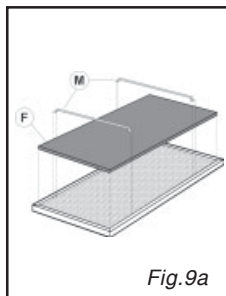

Fig.9a
Take away the coal filters (F) and the filters-stop (B) which are placed on the grease filter (Fig. 9a-9b). Install the filters support and the grease filters again. Make the electrical connection of the hood by means of the power supply cable.